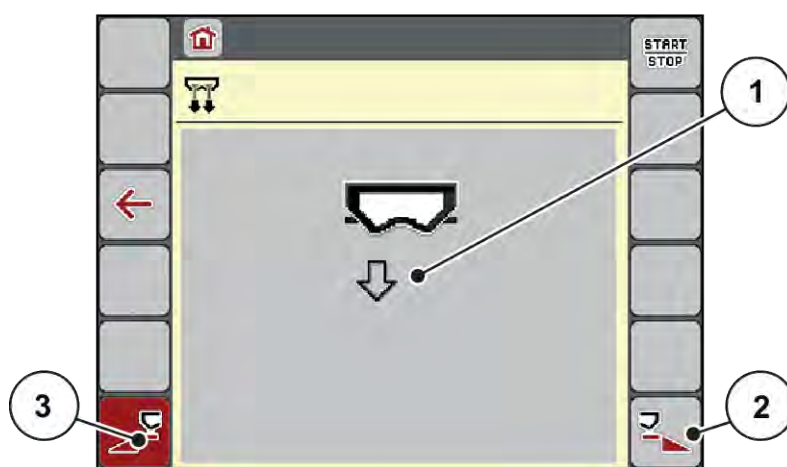

Fig. 22: Menu Fast emptying
*The selected section is displayed as an icon (Fig. 22 position [3]).*